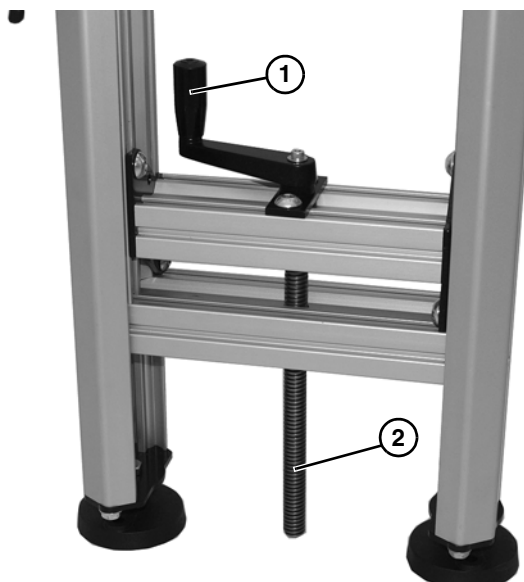

Figure 10
Be certain to not turn adjustment knob (Figure 10, item 1) to far so that adjustment rod (Figure 10, item 2) hits bottom floor surface.